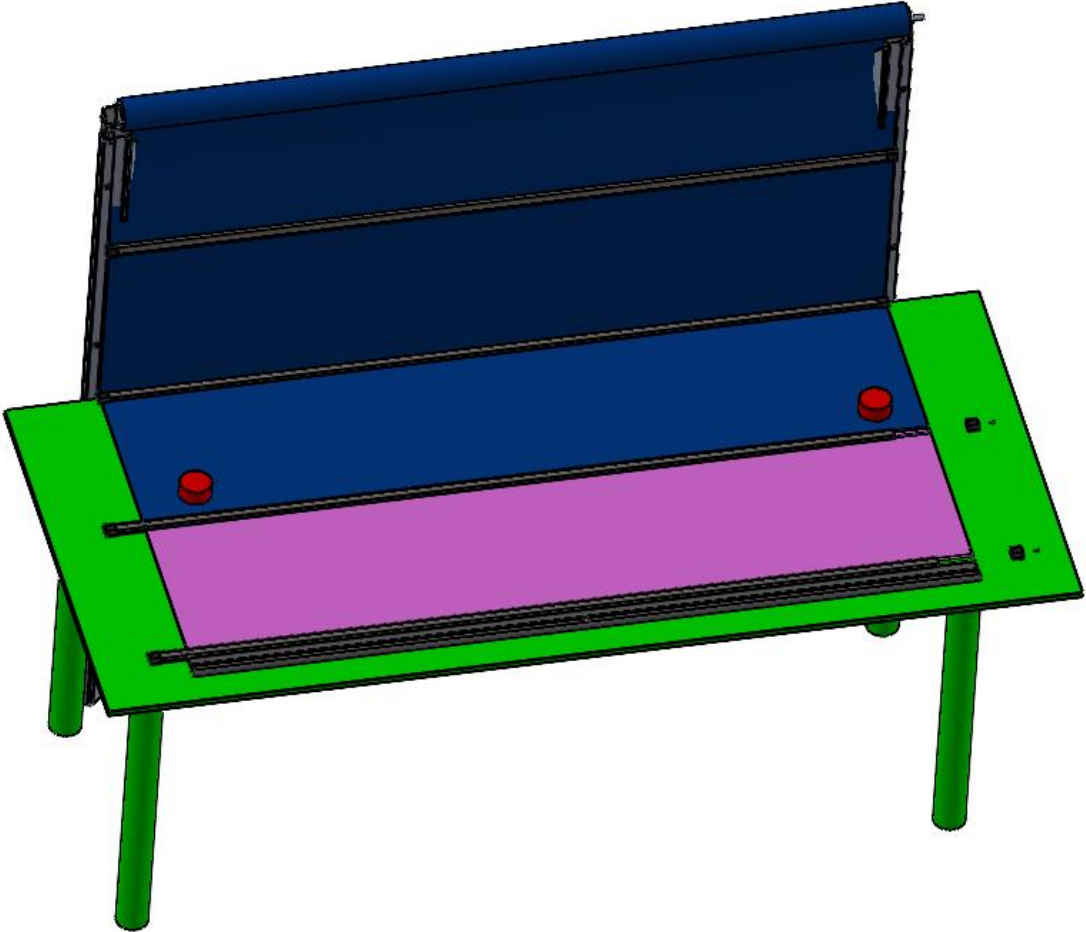
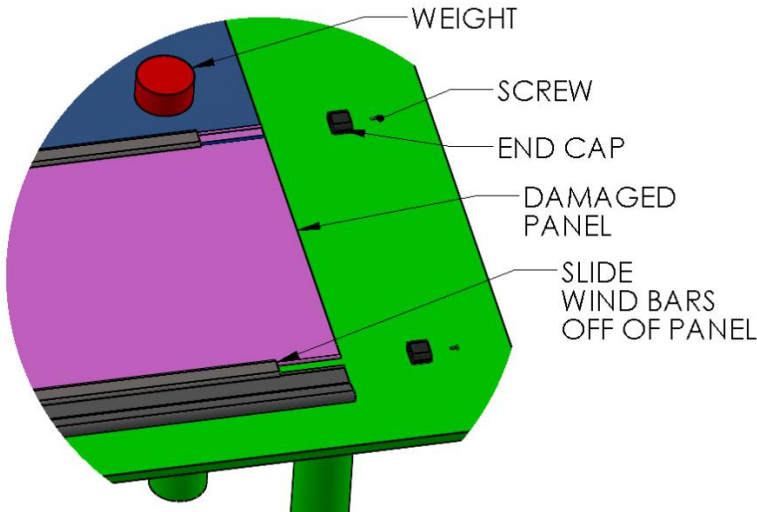

Figure 3 DOOR ON WORK SURFACE WITH WEIGHTS ON PANEL
Figure 4 PART IDENTIFICATION/ REMOVAL PROCESS
3. At one end of the Wind Bar, remove the Screw and End Cap. (Figure 3 DOOR ON WORK SURFACE WITH WEIGHTS ON PANEL, Figure 4 PART IDENTIFICATION/ REMOVAL PROCESS)
5. Slide the Wind Bar off the ends of the panel above, and the panel below, the panel to be replaced. (Figure 4 PART IDENTIFICATION/ REMOVAL PROCESS)
2. At one end of the Wind Bar, remove the Screw and End Cap. (Figure 3 DOOR ON WORK SURFACE WITH WEIGHTS ON PANEL, Figure 4 PART IDENTIFICATION/ REMOVAL PROCESS)